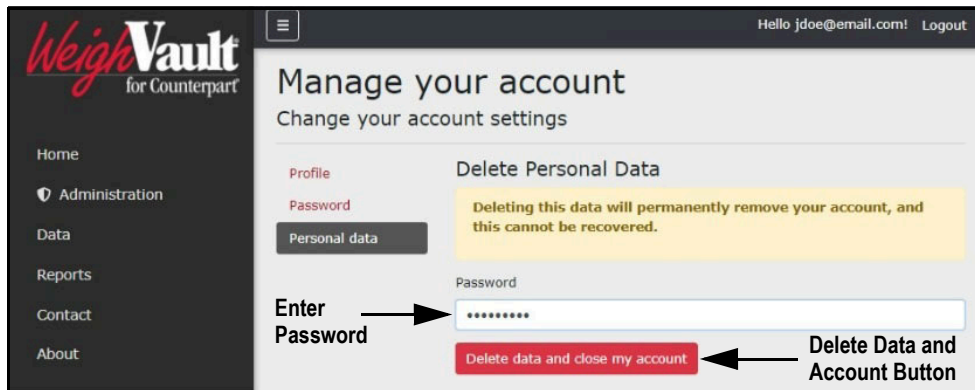

Figure 3-33. Delete Personal Data Page
5. A delete confirmation displays (see Figure 3-33 on page 28).